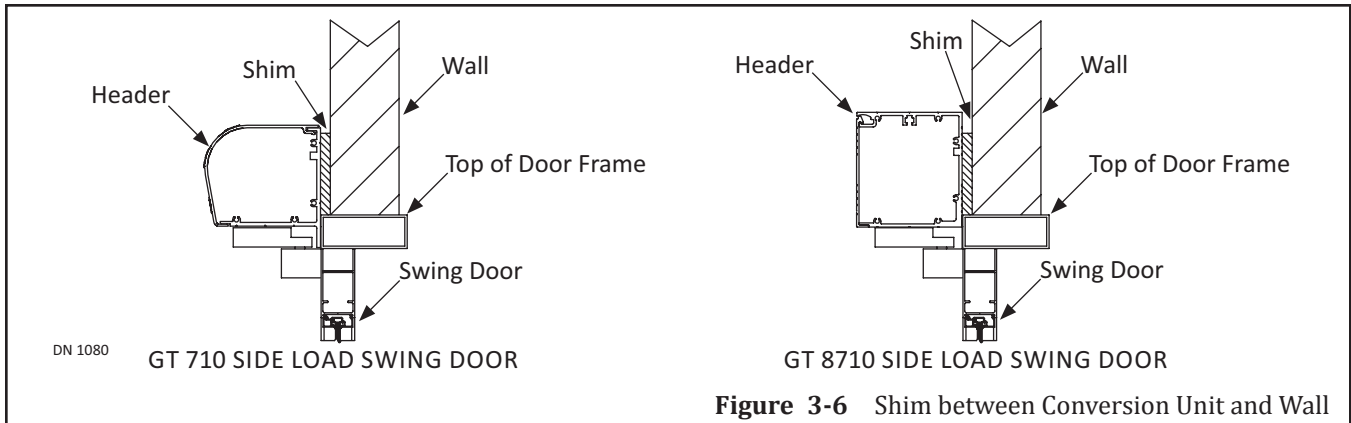

Figure 3-6 Shim between Conversion Unit and Wall
5. Obtain (1) Shim to be the same depth as measurement #1; no higher than measurement #2; and about the same width as the Header.
6. Secure the Shim to stud(s). It is recommended to use Lag Bolts. Please see Figure 3-6.